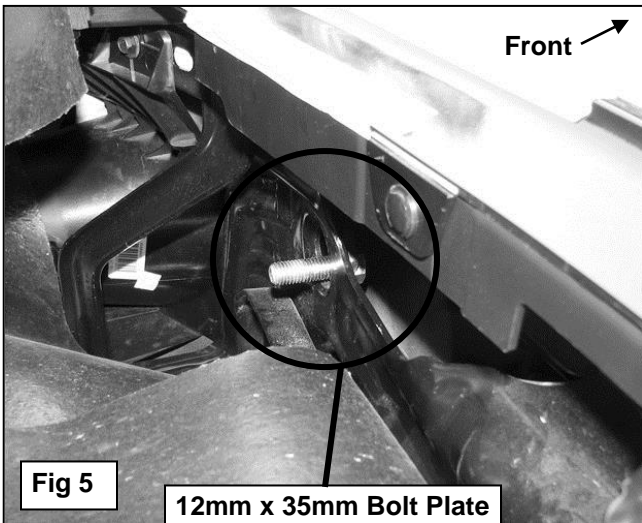

Fig 5
4. Next, open the hood on the vehicle and locate the cross member behind the bumper cover. Locate the holes in the cross member for the Bolt Plate to secure the driver side Top Support Bracket. Insert (1) 12mm x 35mm Bolt Plate into the hole in the cross member behind the driver side of the bumper, **(FIGURE 5)**. Place the driver side Top Support Bracket onto the threaded end of the Bolt Plate and secure it with (1) 12mm Flat Washer, (1) 12mm Lock Washer and (1) 12mm Hex Nut, **(FIGURE 6)**. Snug but do not tighten hardware at this time. **IMPORTANT:** It is highly recommended that you cover the top of the plastic bumper cover during installation to prevent damage to the painted finish on the vehicle, **(FIGURE 7)**.